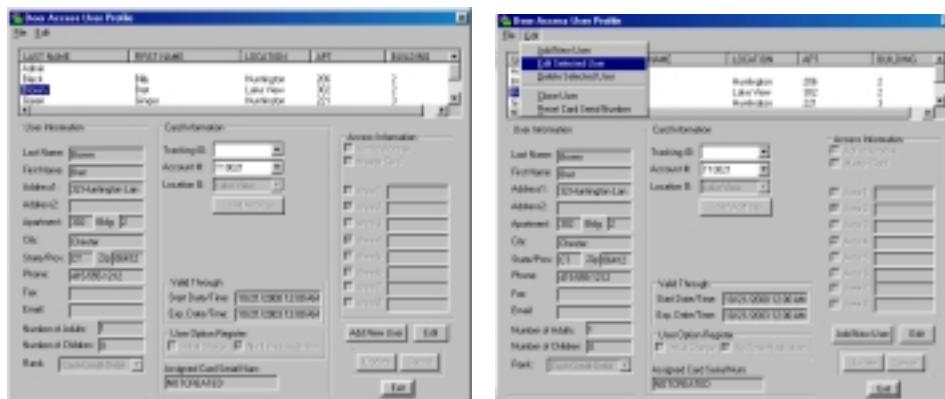

Figure 11.23 Editing a User
1. In the Door Access User Profile window click the user to edit from the Users List Window (Figure 11.23).